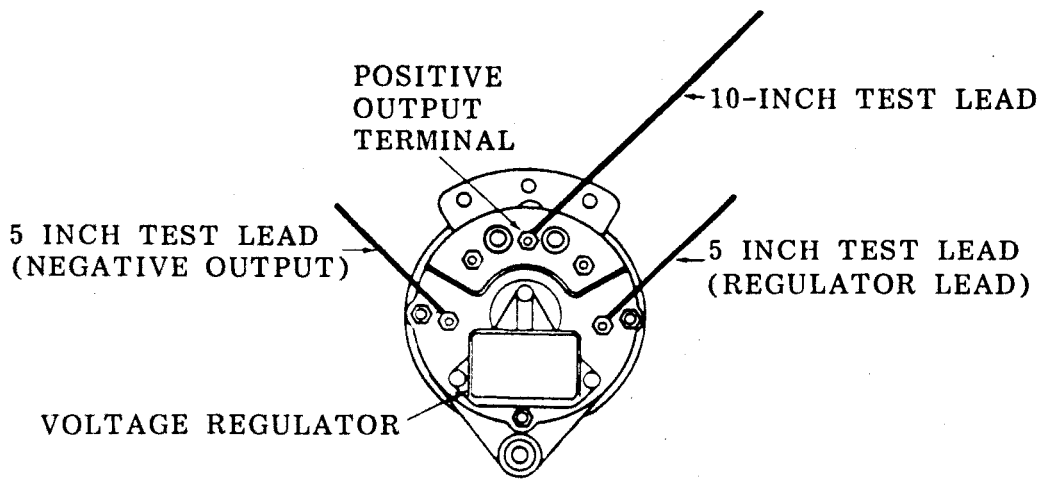

Figure 7-8. Alternator Test Leads Installation.
- (1) Manufacture test leads as follows:
- (2) Install test leads as follows:
- (a) Attach the test leads as shown in figure 7-8. Pass the free end of each lead through the ventilated band cover.
- (b) If voltage at V2 is low or zero, the alternator positive and negative output circuits must be tested as indicated in steps (4) and (5) below.
- (4) Test alternator positive output circuit as follows:
- (a) Check voltage at V3 as shown in figures 7-8 and 7-9.